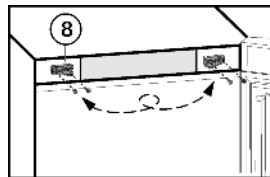

Fig. 28
- ▶ Unscrew bearing part *Fig. 28 (8)*, turn it 180° and move it to the opposite side. Make preliminary holes (optional) or use a cordless screwdriver.